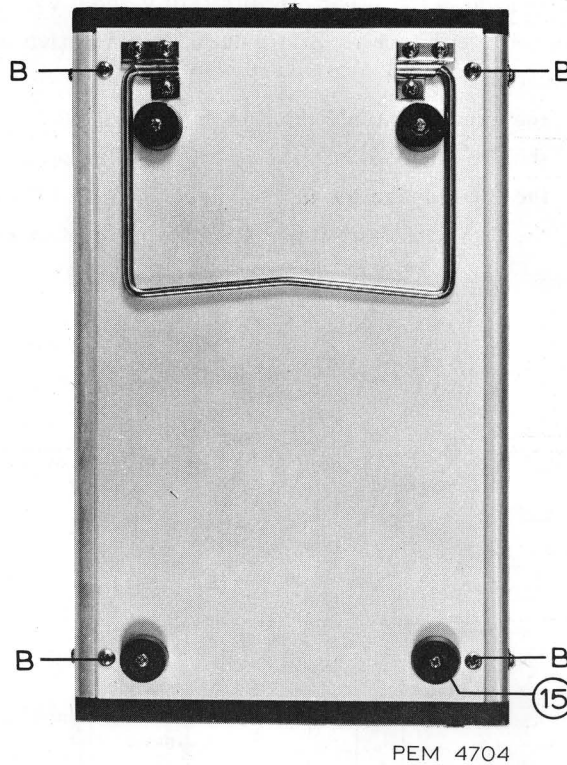

Fig. 19. Bottom view
- Remove four screws "B" (Fig. 19).